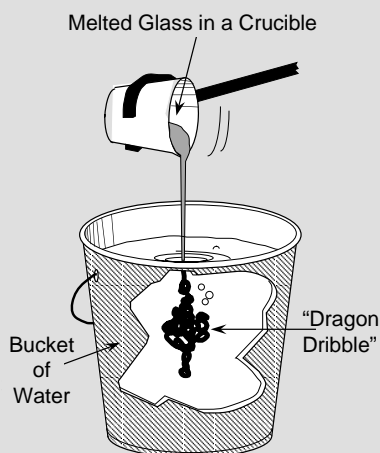

Figure 6.5. Dragon Dribble
2. Pour the glass in a small continuous stream into the can, bucket, or stainless-steel beaker containing water (see Figure 6.5). (The glass should form a continuous ribbon about the thickness of a dime or slightly thicker.)